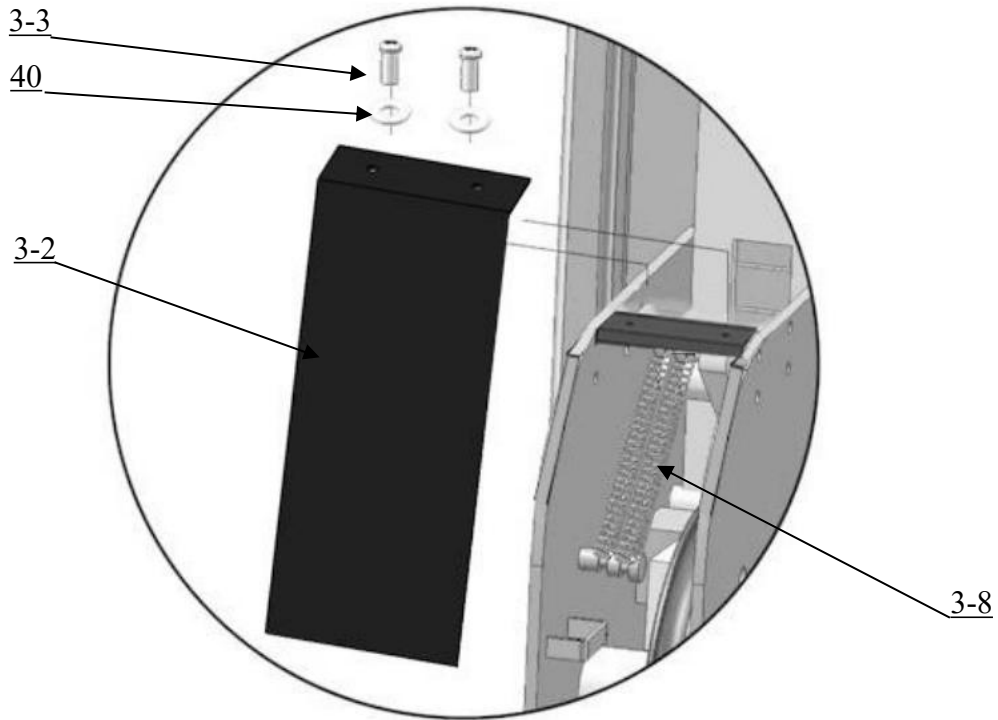

Fig. 50
O. Install spring and safety cover of cross beam (See Fig. 50)